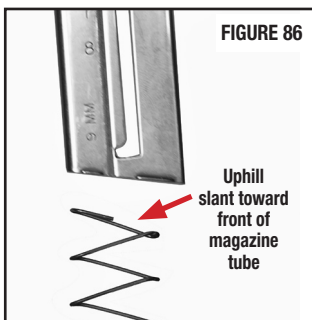

FIGURE 86
- Installing the magazine spring into the tube, keep the “uphill” slant toward the front of the magazine as shown (FIGURE 86).